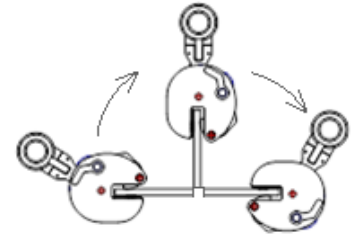

Figure 8
- When turning/flip over the plate round (See Figure 8), the lower edge of the plate must be in contact with a firm surface. Take into account the possibility of the plate slipping.